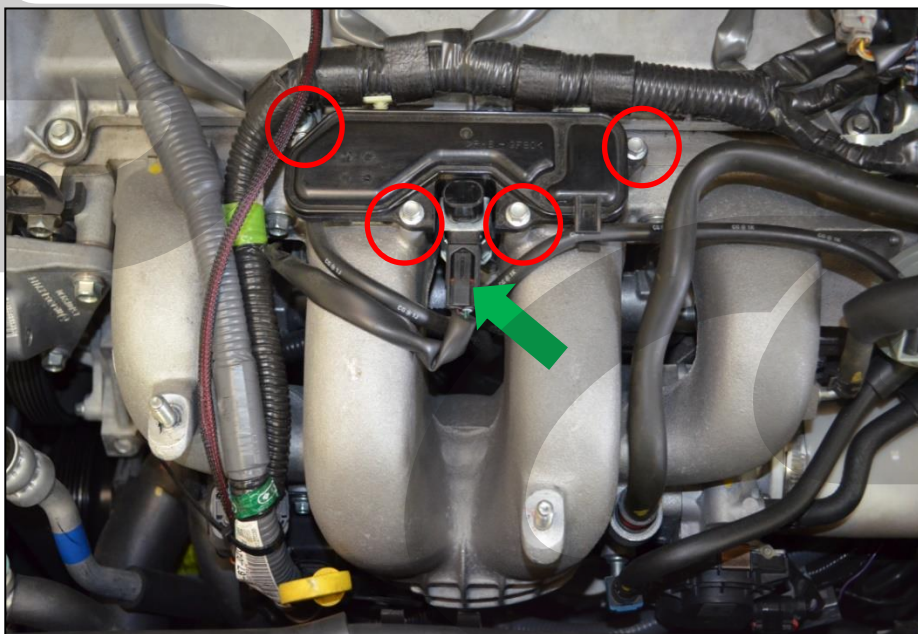

Figure 2b
- b) **Remove the swirl vane controller box** (red circles in Figure 2b) with an 8mm socket, then disconnect the electrical circuit (green arrow) and remove the controller box.